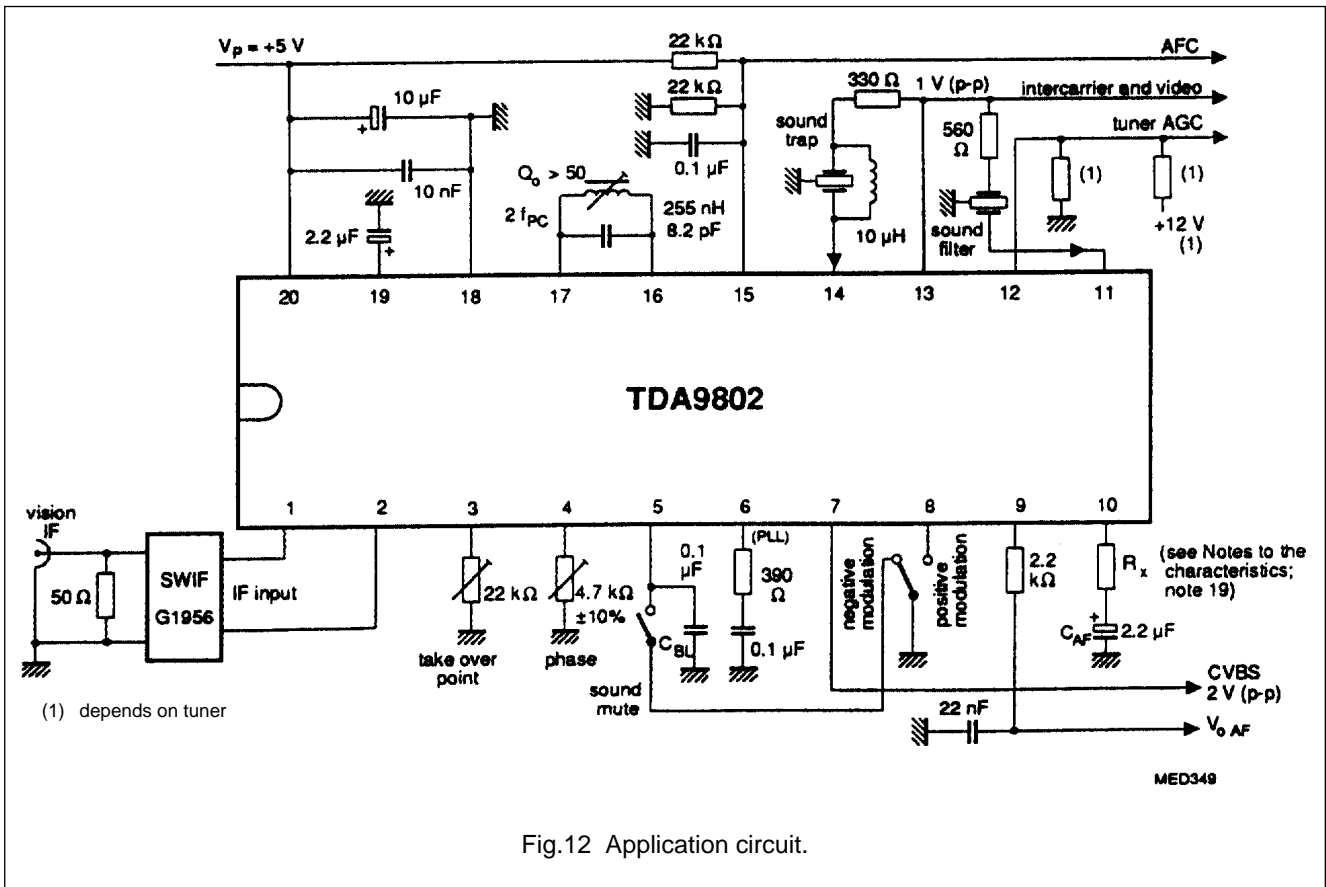

Fig.12 Application circuit.
19. To allow higher frequency deviation, the resistor R_x on pin 10 (see Fig.12) has to be increased to a value which does not exceed the AF output signal of nominally 0.35 V for THD = 0.1% ($R_x = 4.7$ k Ω provides -6 dB amplification).